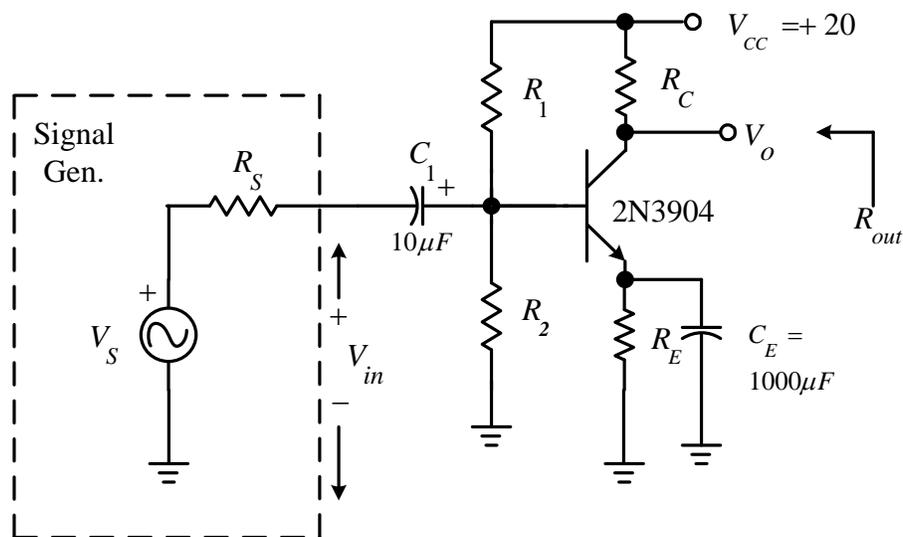

Fig. 1. The common-emitter amplifier for this experiment.
In Experiment 4, you began the design of a BJT amplifier by designing the biasing network, given a desired quiescent point. Figure 1 shows the amplifier with coupling and bypass capacitors added. Write in the values for R_C , R_E , R_1 , and R_2 that you used for Design 1 in Experiment 4. The capacitors have been selected so that the lower cutoff frequency should be near 320Hz.
Draw the mid-band equivalent circuit for the amplifier of Fig. 1. Using your design value of I_C from Experiment #4, calculate g_m , r_{π} , and the expected voltage gain V_o/V_{in} . Note that V_{in} is taken at the input of the amplifier. Most signal generators have an output resistance of 50 ohms.
1. Using your multimeter, measure the exact resistance of the resistor you will use for R_C . (This value will be important later on.) Using a breadboard, construct the circuit of Fig. 1. Be sure to observe the polarity of the electrolytic capacitors. Before connecting the signal generator, apply dc power and check the dc bias voltages of the circuit to ensure they are reasonable.